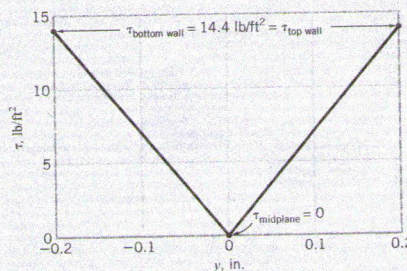

FIGURE E1.5b
(2) **COMMENT** From Eq. 2 we see that the velocity gradient (and therefore the shearing stress) varies linearly with  $y$  and in this particular example varies from 0 at the center of the channel to  $14.4 \text{ lb}/\text{ft}^2$  at the walls. This is shown in Fig. E1.5b. For the more general case the actual variation will, of course, depend on the nature of the velocity distribution.